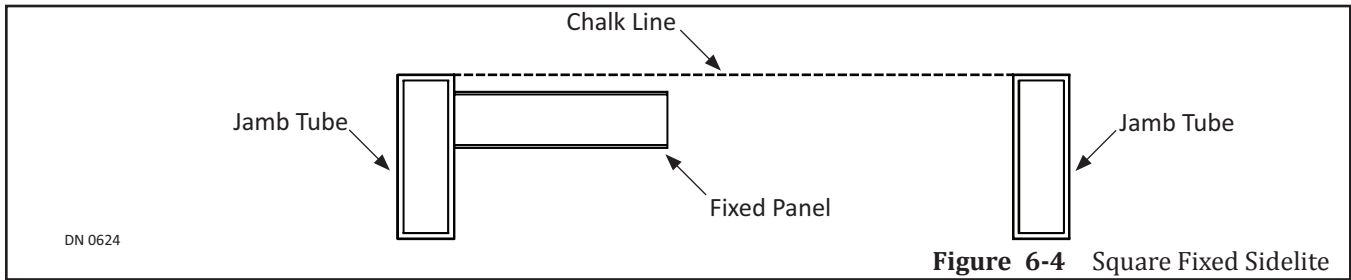

Figure 6-4 Square Fixed Sidelite
12. Snap a chalk line between Jamb tubes in front of Sidelite Panel. Please see Figure 6-4.
3. Ensure the Fixed Panel is still parallel to the chalk line so it remains square. Please see Figure 6-4.
4. Secure the Threshold Bracket to the Strike Stile with (1) 1/4-20 x 5/8 inch Socket Head screw.
5. Secure the Cover Plate back onto the Strike Stile with (2) 1/4-20 x 5/8 inch Socket Head screws.